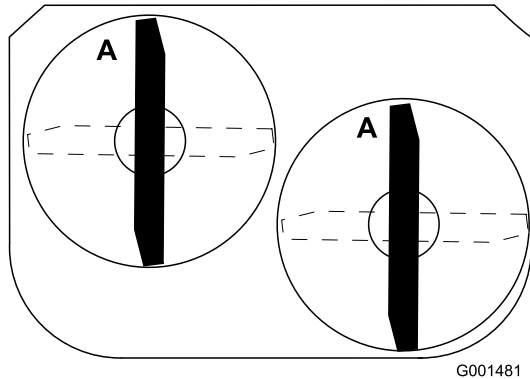

Figure 52
3. Rotate the blades until the ends face forward and backward (Figure 52).